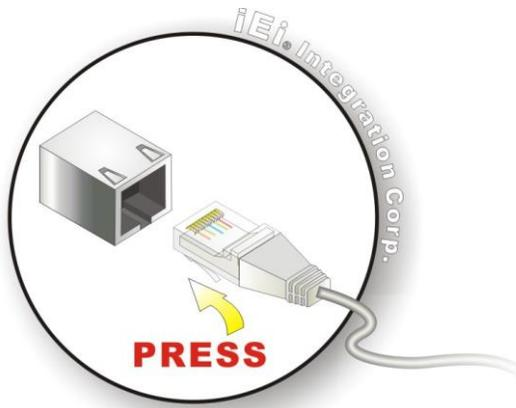

Figure 3-15: LAN Connection
Step 2: **Align the connectors.** Align the RJ-45 connector on the LAN cable with one of the RJ-45 connectors on the TANK-XM810 Series. **(See Figure 3-15)**.